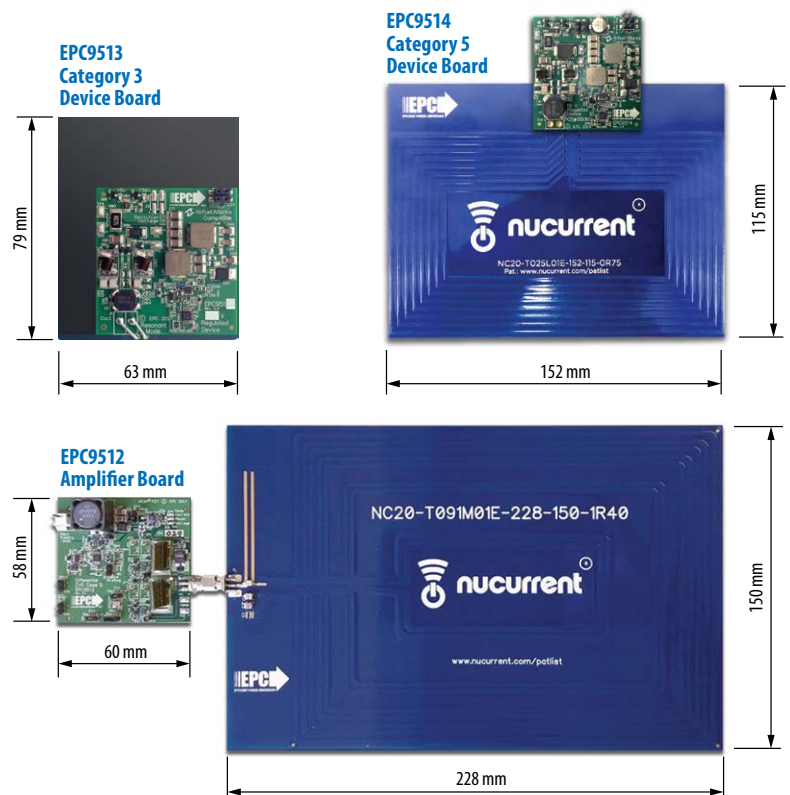
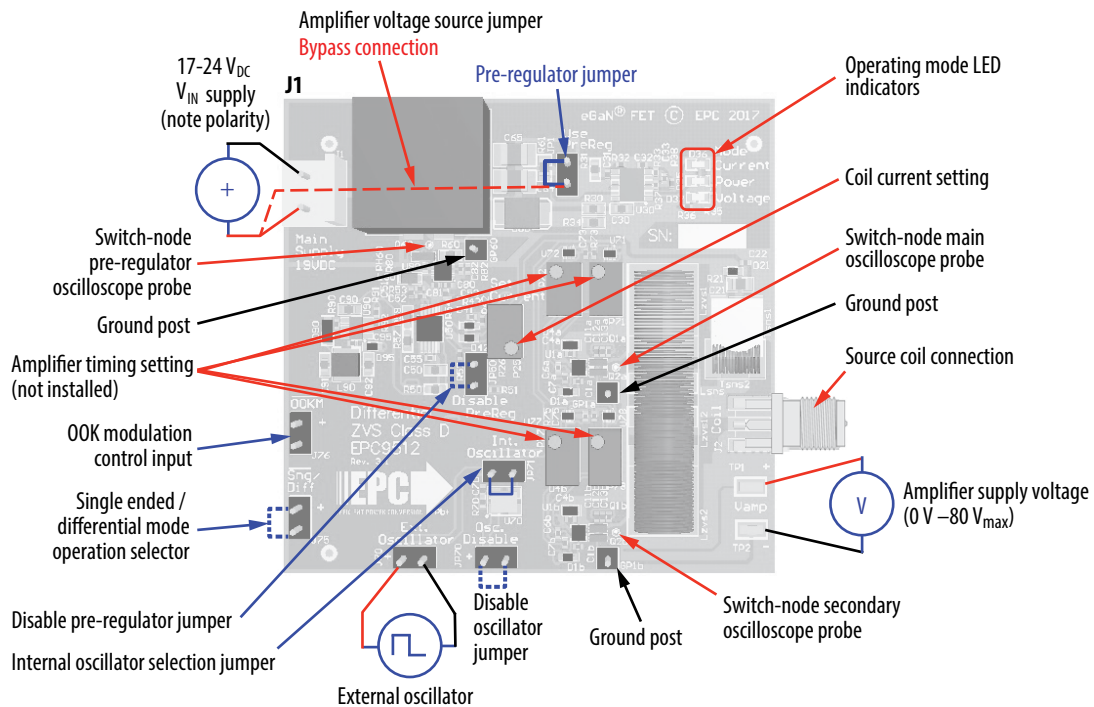

Figure 1: EPC9129 demonstration system.
Figure 8: Proper connection and measurement setup for the amplifier board.
The EPC9129 wireless power system is comprised of the four boards (shown in figure 1), namely:
The assembly of the EPC9129 Wireless Demonstration kit is simple and shown in figure 1. The source coil and amplifier have been equipped with SMA connectors. The source coil is simply connected to the amplifier. The device board do not need to be mechanically attached to the source coil.
The EPC9129 demonstration system is easy to set up and evaluate the performance of the eGaN FET in a wireless power transfer application. Refer to figure 1 to assemble the system and figures 8, 9, and 10 for proper connection and measurement setup before following the testing procedures.
- With power off, connect the main input power supply bus to J1 as shown in figure 8. Note the polarity of the supply connector.
2. With power off, connect the main input power supply bus $+V_{IN}$ to the bottom pin of JP1 and the ground to the ground connection J1 as shown in figure 8.